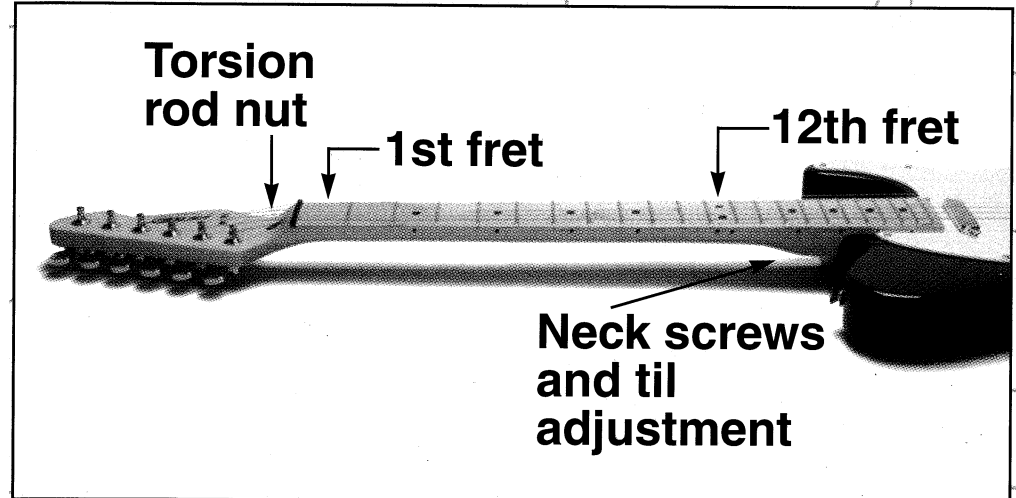

Figure 4
2. Fret the sixth string (E) at the first and last frets (refer to Figure 4).